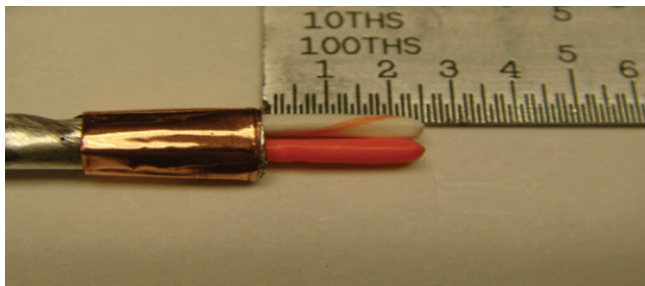

Figure 14: Removing the foil edge
7. With cutters, cut the foil edge where it meets the tape. Then, tear the foil along the tape edge (Figure 14).